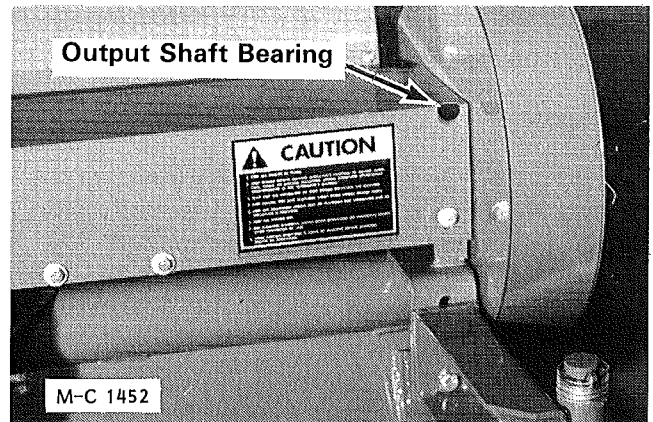

Figure 15
5. Gauge roller bearings (2). One fitting on each end of the gauge roller.
6. Output shaft bearing (1). Reach through hole in output shaft guard, see Figure 15.
7. Output shaft universal joint (1). Located under the output shaft guard.